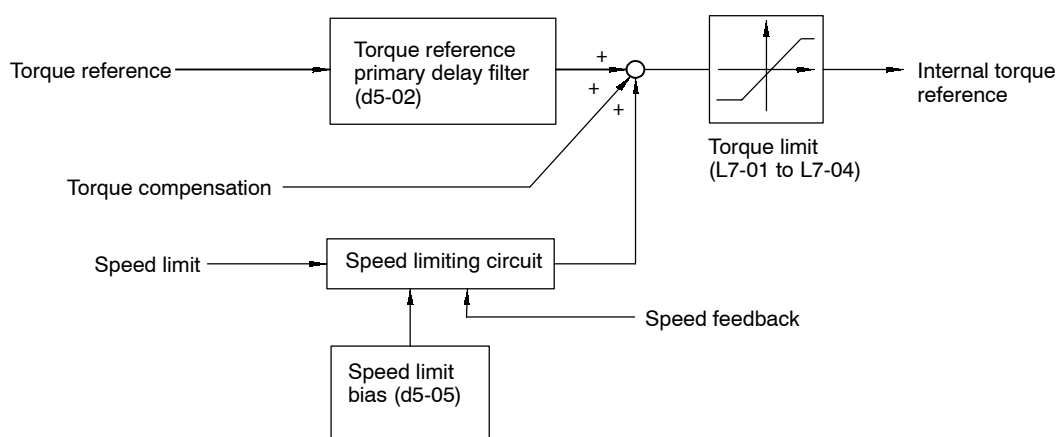

Fig 7.10 Torque Control Block Diagram
- Figure 7.10 shows the operation of torque control.